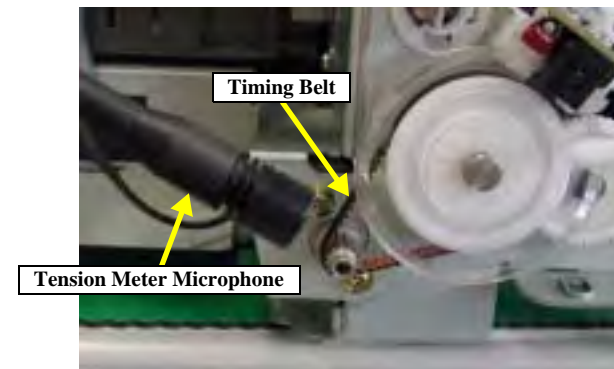

Figure 5-5. PF Belt Tension Adjustment
7. The microphone surface will approach the center of belt tension as near as possible. (See Figure 5-5)
9. Grasp the Timing Belt with the tip of a pair of tweezers and pull the belt downwards to pluck it. (See Figure 5-5) The "----" straight line in the LCD will change as though impacting a wave, a high-pitched beep will notify of the measurement results and an "N" will appear in the LCD. Regardless of the force used to pluck the Timing Belt, the instrument is able to measure by accurately picking up the acoustic tone, and the results are displayed in "N" units (Newton).